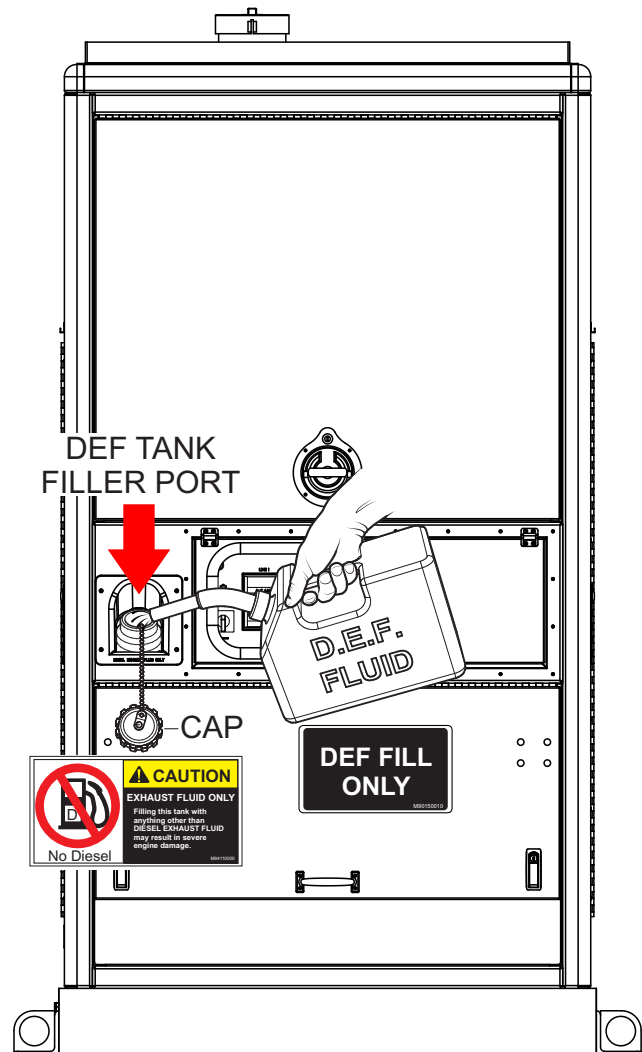

Figure 18. DEF Tank Filling
1. Remove the filler cap (Figure 18) from the DEF tank.